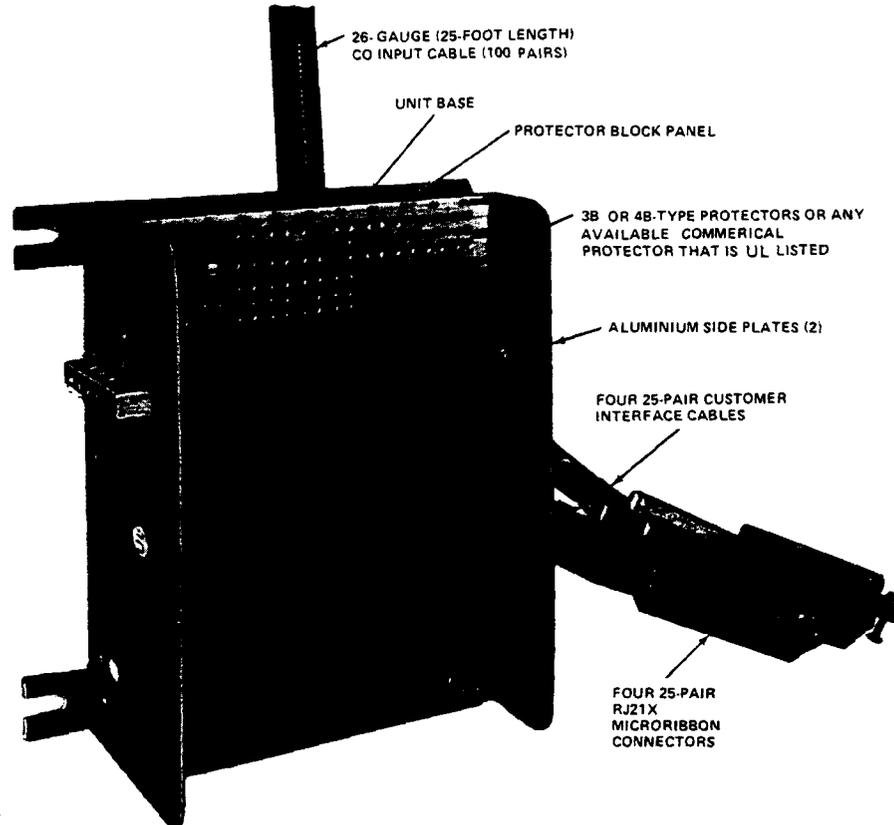

Figure 30—195-Type Protector
6.14 The 195-type protector (Figure 30) is used as a station protector in buildings served by exposed cable. The 195 protector is specifically designed for